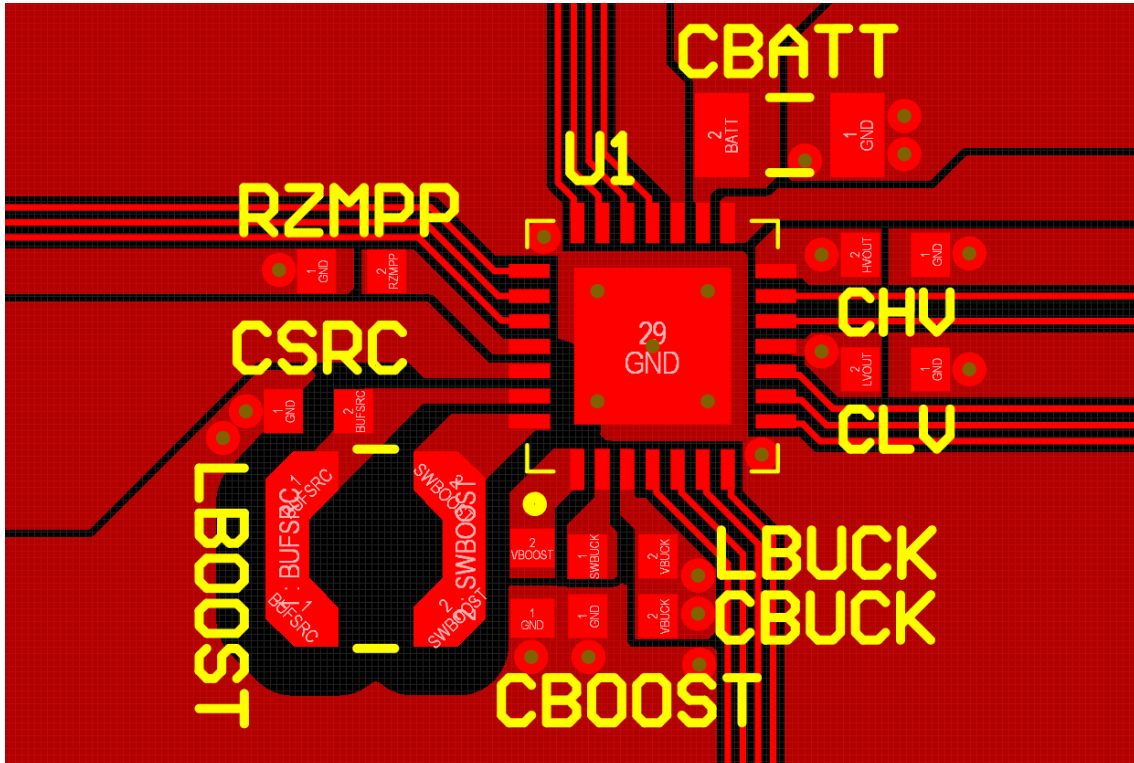

Figure 25: Layout example for the AEM30940 and its passive components
- The switching nodes (**BUFSRC**, **SWBOOST**, **SWBUCK** and **BUCK**) must be kept as short as possible, with minimal track resistance and minimal track capacitance. Low resistance is obtained by keeping track length as short as possible and track width as large as possible between these switching nodes and the AEM30940 pins. Minimal capacitance is obtained by maintaining a large distance between the switching nodes and other signals. We recommend removing the ground plane, the power plane and the bottom layer ground pour under **LBOOST** and **LBUCK** footprints, as well as adding distance between **BUFSRC/SWBOOST** and the top ground pour, as shown in Figure 25.
- The **GND** return path between the decoupling capacitors and the AEM30940 thermal pad, which is the AEM30940 main **GND** connection, must be as direct and short as possible. This is preferably done on the top layer when possible, otherwise by internal/bottom plane, using low resistance vias to decrease layer-to-layer connection resistance. In Figure 25, this **GND** return path is done on an internal plane.